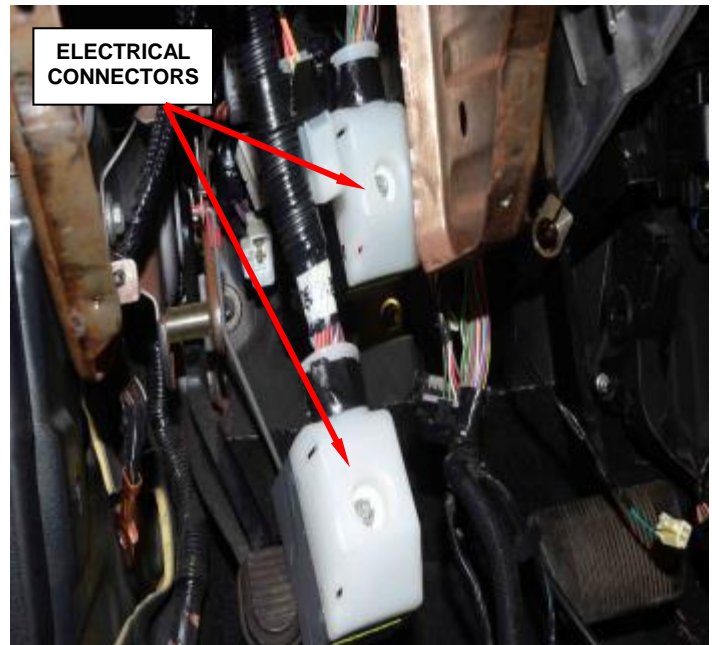

Figure 84 – Electrical Connectors
19. Loosen the screws and disconnect the electrical connectors (Figure 84).